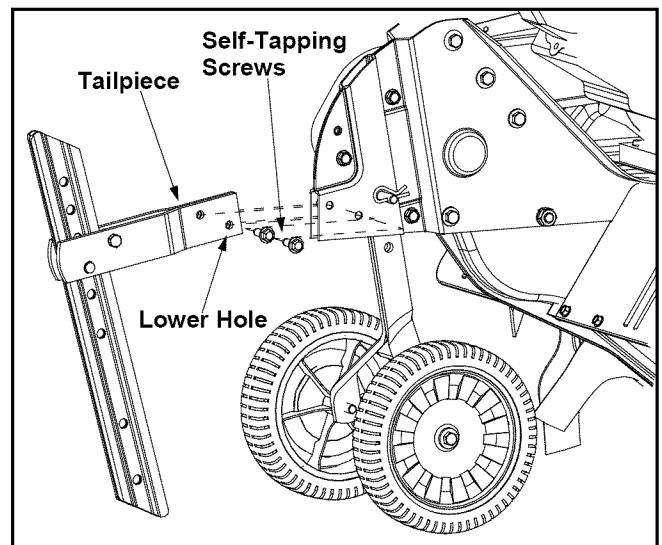

Figure 2
- Remove the two self-tapping screws on the frame and slide the tailpiece into the frame, with the lower hole in the tailpiece toward the front. See Figure 2.